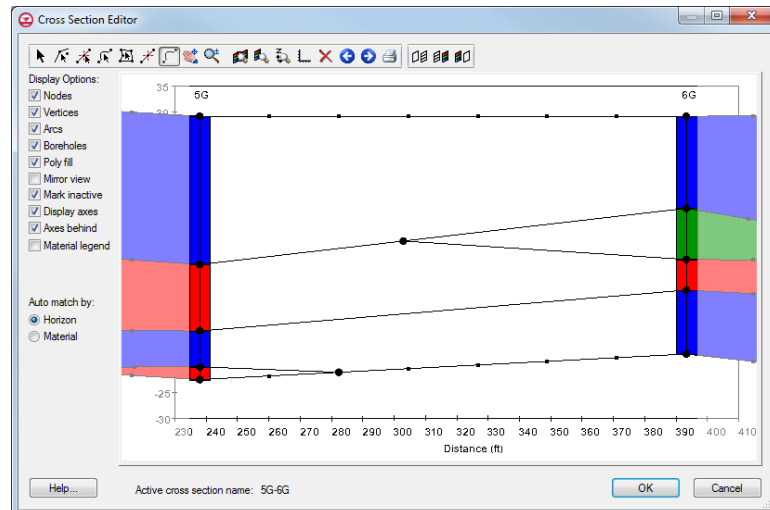

Figure 6 Cross section 5G-6G being edited
4. Using the **Create Arc**  tool, create the cross sections shown in Figure 6.